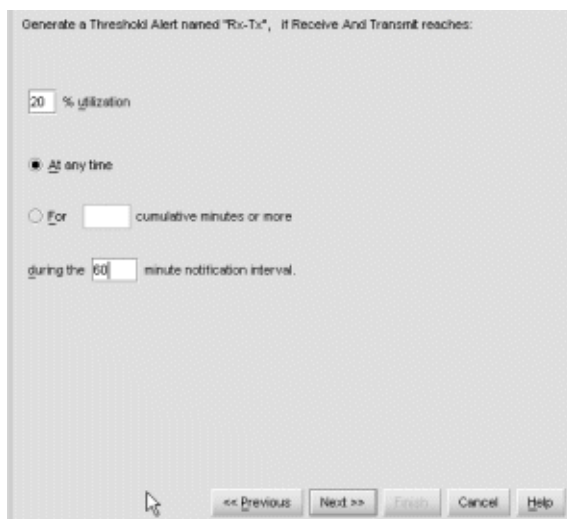

Figure 38: New Threshold Alerts dialog box—second screen
5. Click **Next**. A new screen displays with additional parameters, as shown in Figure 38. The name configured for the alert displays at the top of the screen.